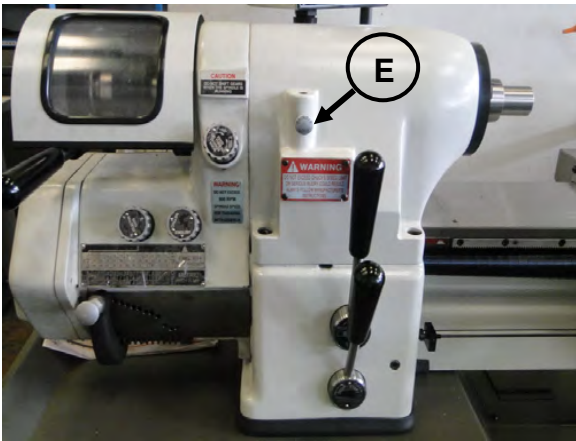

Figure 21-Control Speed and Direction
2. Push the lock Pin "E" (Figure 21). To engage lock pin, turn spindle by hand till lock pin enters notch to lock.